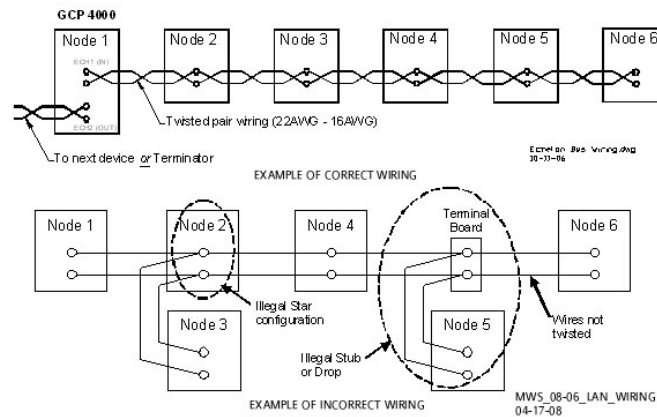

Figure 30: Echelon LAN Wiring Examples
- Each connection (node) must be wired in a daisy-chained bus configuration, no drops allowed (see Figure 30).
- A maximum of 8 connections (nodes) is recommended within 53 ft. (15.2 m) of cable. If necessary additional cable may be added so that no more than 8 nodes are located within any 53 ft./15.2 m length (see Figure 30).